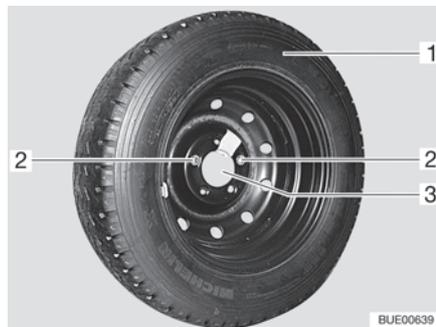

Fig. 229 Spare wheel support in the rear garage
- Loosen and remove both fixing screws (Fig. 229,2) with the on-board tool set.
- Remove the spare wheel (Fig. 229,1) from the support (Fig. 229,3).